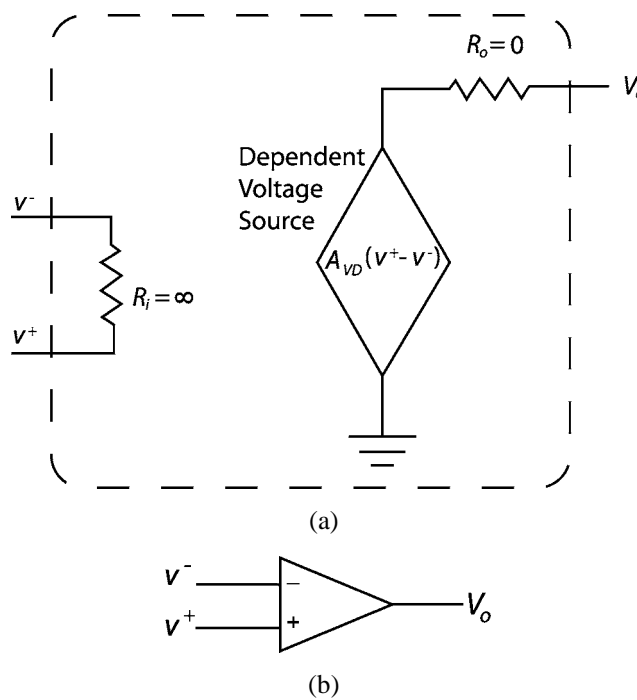

Figure 1: (a) Simplified op-amp schematic. (b) Op-amp circuit diagram.
An op-amp is a device with two inputs and one output. The two inputs are known as the non-inverting input, v^+ , and the inverting input, v^- . The output of the op-amp is dependent upon the potential difference between the inverting and non-inverting inputs. Op-amps require an external power source denoted V_{cc} . The op-amps used in the lab use a $\pm V_{cc}$ of ± 12 V provided by the bench power supply at each station. A simplified schematic of an ideal op-amp is shown in Figure 1 below. It is common to omit the power connection in most op-amp diagrams; therefore, Figure 1 does not include these connections.
The basic features of ideal op-amps and their representation in circuit diagrams are shown in Figure 1 (a) and (b) respectively. The two inputs of the op-amp are connected through a resistor with infinite resistance that restricts current from flowing into the op-amp at either terminal. The output lead is connected to a dependent voltage source through a resistor of zero value, thus causing the output voltage V_o to be equal to the voltage provided by the dependent voltage source. The voltage of the dependent source is proportional to the voltage difference between v^+ and v^- and can be expressed as follows:
1. Determine the output voltage V_o of the op-amp in Figure 1 as a function of the input voltage V_i , the resistance R , and the capacitance C . The methods developed in the following background section will provide you with the tools needed to perform this task. (Recall that the current through a capacitor is proportional to the time derivative of the voltage across it.)